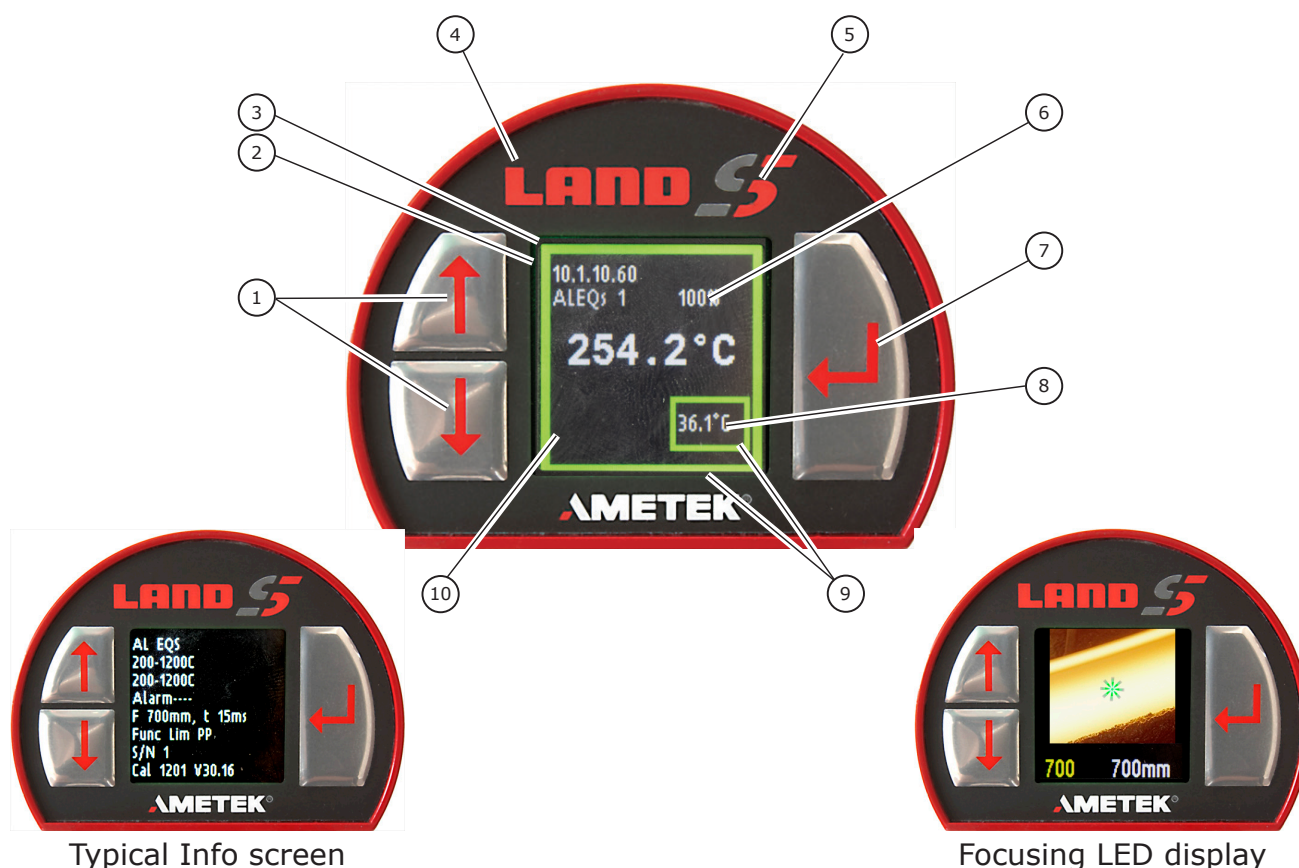

Fig. 3-1 Rear panel controls and displays
- Display the Target temperature and the internal ambient temperature of the instrument (as shown in Fig. 3-1);
- 2) Open a web browser window (e.g. Google Chrome) and type the IP address of the thermometer (default **10.1.10.50**) into the address bar. The Web Server interface will open (Fig. 3-2). The interface mimics the rear panel of the thermometer shown in Fig. 3-1.
The following table describes the items shown in Figs. 3-1 and 3-2.